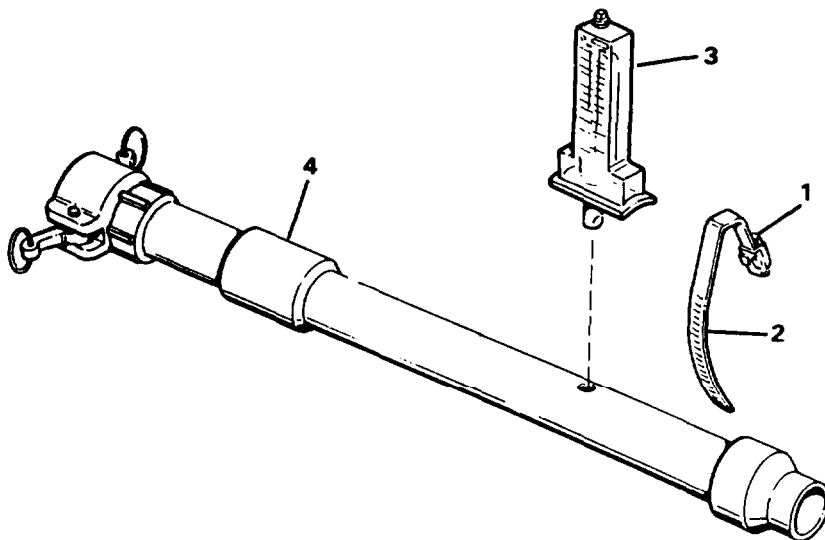

Figure 4-105. Portable Flow Rate Indicator
- a. Loosen the clamping screw (1, Figure 4-105) on each of the two strap dampers (2) and remove the strap dampers (2).
- b. Pull the flow rate gage (3) straight out of the plastic pipe assembly (4).
- c. Do not disassemble the plastic pipe assembly (4).
- a. Replace cracked or unserviceable pipe assembly (4).
- b. Replace damaged or inoperative flow rate gage (3).
- c. Replace worn or broken strap dampers (2).
- a. Position flow rate gage (3) on pipe assembly (4) as shown in Figure 4-105.
- b. Wrap strap dampers around the pipe assembly and over the flanges at each side of the flow rate gage (3).
- c. Tighten the screws (1) on the strap dampers (2).